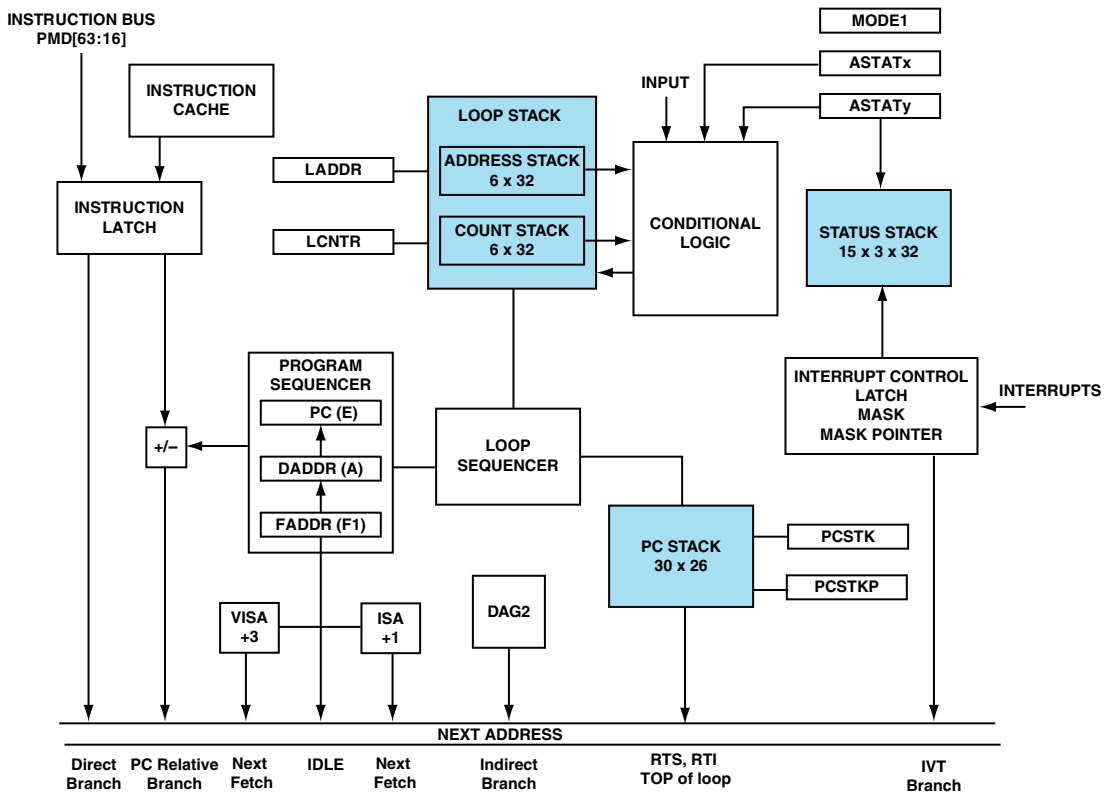

Figure 4-2. Sequencer Control Diagram
To accomplish these tasks, the sequencer uses the blocks shown in Figure 4-2. The sequencer's address multiplexer selects the value of the next fetch address from several possible sources. The fetched address enters the instruction pipeline, made up of the fetch1, fetch2, decode, address, and execute registers. These contain the 24-bit addresses of the instructions currently being fetched, decoded, and executed. The program counter, coupled with the program counter stack, which stores return addresses and top-of-loop addresses. All addresses generated by the sequencer are 24-bit program memory instruction addresses.
The sequencer uses the blocks shown in Figure 4-2 to execute instructions. The sequencer’s address multiplexer selects the value of the next fetch address from several possible sources. These registers contain the 24-bit addresses of the instructions currently being fetched, decoded, and executed.
The sequencer includes a program counter (PC) stack pointer, which appears in Figure 4-2 on page 4-4. At the start of a subroutine or loop, the sequencer pushes return addresses for subroutines (CALL instructions with RTI/RTS) and top-of-loop addresses for loops (DO/UNTIL instructions) onto the PC stack. The sequencer pops the PC stack during a return from interrupt (RTI), return from subroutine (RTS), and a loop termination.